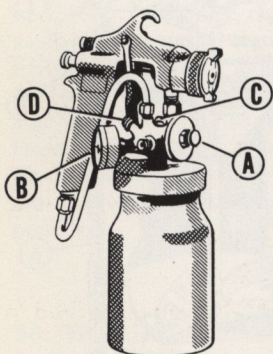

Fig. 47
The **regulator type cup** has a built-in regulator which controls the fluid pressure independently of the atomization air pressure (Fig. 47). A regulator cup is equipped with the following accessories: An air regulator to control pressure on the material (A), a gauge to indicate this pressure (B), a valve to release pressure from the cup and a safety valve (C), and in some cases an air adjusting valve to control atomization air to the gun (D).